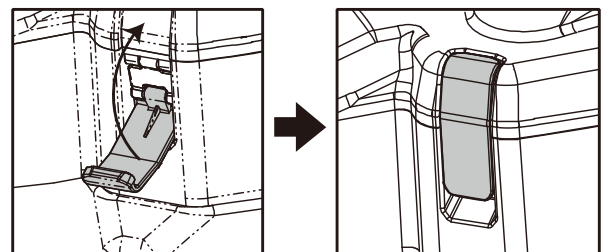

Fig.8
**4.4.3.7** Press down the upper cover and buckle the fastener securely, as shown in Figure 8.